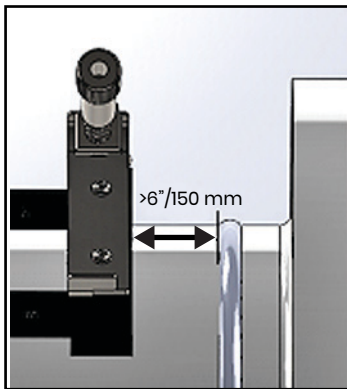

Figure 10: Adjusting the Fixture Position
3. Adjust the clamp-on fixture position so that the outer edge of the closest end piece is located at the chosen distance from the nearest inlet, outlet, joint or fitting in the pipeline (see *Figure 10* below).